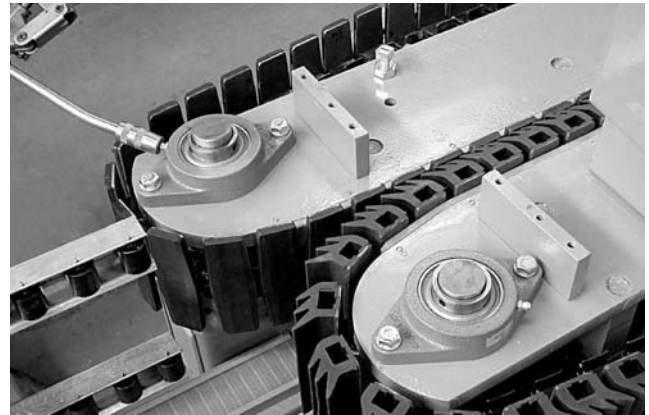

Figure 37
Using a grease gun with Sommer & Maca part number 59901594 special moly grease, pump a small amount of the grease into each fitting on the (7) seven sprocket and spur gear shaft flange bearings (see Figure 37). The flange bearing nearest to the large spur gears is located lower than the other six bearings. There are no bearings between the top of the gearboxes on either side of the center chain conveyors.